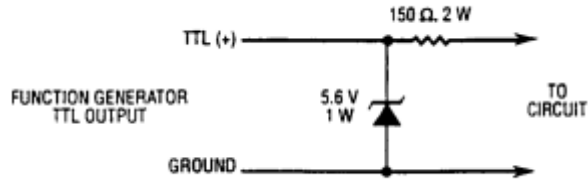

Figure 5. Circuit for Protection of TTL Output.
5. When the function generator is used by students or other inexperienced users, the circuit of Fig. 5 could be added into your TTL output probe or test clip set. It will protect the TTL output of the generator against external voltages up to  $\pm 20$  volts.